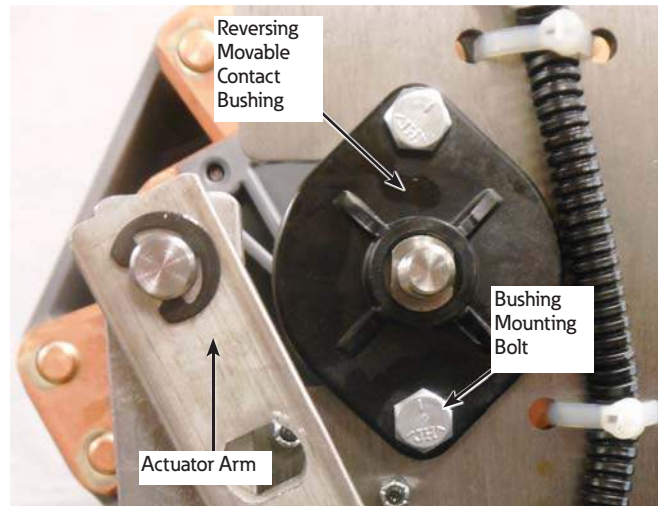

Figure 5. Bushing
4. Using a 7/16" socket wrench, loosen and remove both bushing-mounting bolts. See Figure 5.